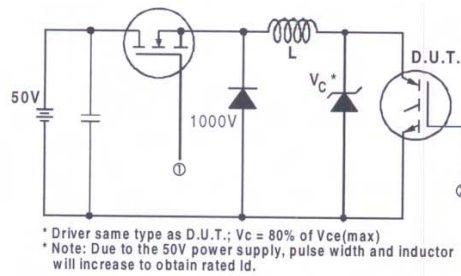

Fig. 13a - Clamped Inductive Load Test Circuit
- ② $V_{CC} = 80\%(V_{CES})$, $V_{GE} = 20V$, $L = 10\mu H$, $R_G = 5.0\Omega$, (See fig. 13a)
- ③ Repetitive rating; pulse width limited by maximum junction temperature.
④ Pulse width $\leq 80\mu s$; duty factor $\leq 0.1\%$.
⑤ Pulse width $5.0\mu s$, single shot.